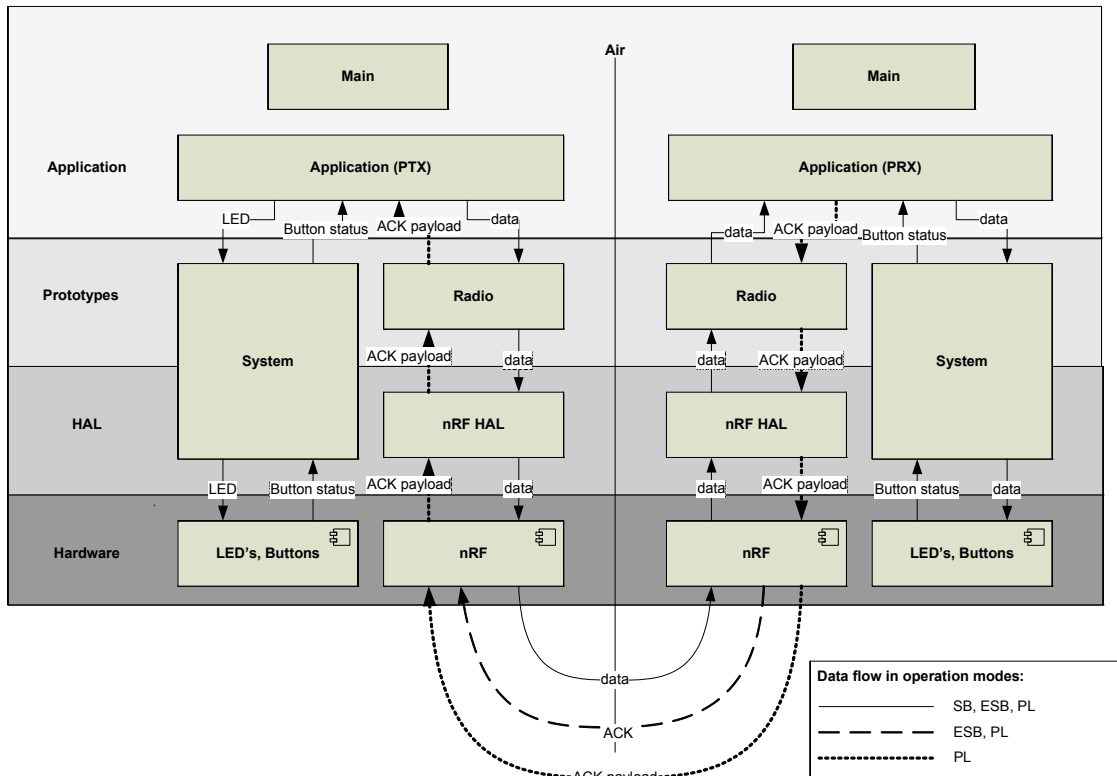

Figure 2. SW Architecture
The software (SW) architecture is shown in Figure 2. A source and header file represent each block. See the help documentation for more information on the prototypes and macros.